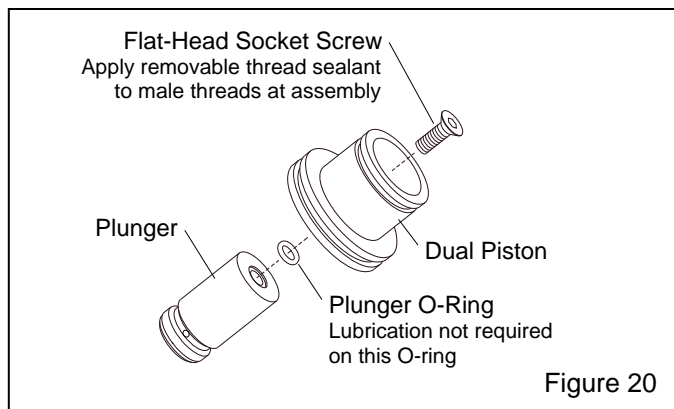

Figure 20
6.3.2.4 If the plunger and piston were separated as noted in paragraph 6.3.1.5, refer to Figure 20 and apply removable thread sealant to the threads on the flat-head socket screw, and reassemble the parts using the new O-ring supplied with the service kit.